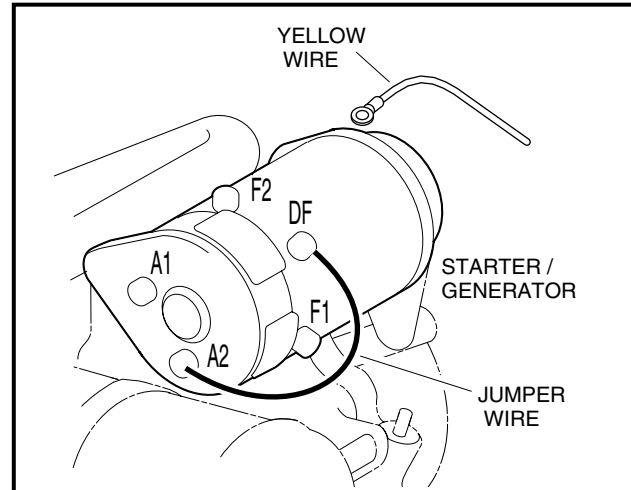

Figure 11-35 Jumper Wire Ground – DF to A2
3. Disconnect the yellow wire from the DF terminal on the starter/generator. Cover the connector on the yellow wire to make sure the yellow wire will not short to ground. Then, using a jumper wire, ground the DF terminal to the A2 terminal (**Figure 11-35, Page 11-29**).